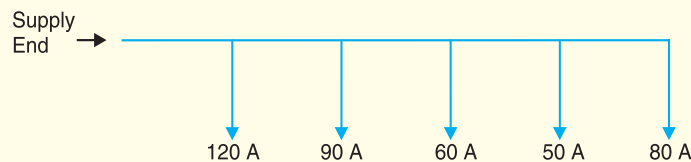

Fig. 13.10
4. A 2-wire d.c. distributor is 250 m long. It is to be loaded as shown in Fig 13.10 at 50 m intervals. If the maximum voltage drop is not to exceed 10V and the resistivity of core material is $0.7 \times 2.54 \mu\Omega \text{ cm}$, determine the maximum cross-sectional area of each conductor. **[1.602 cm²]**